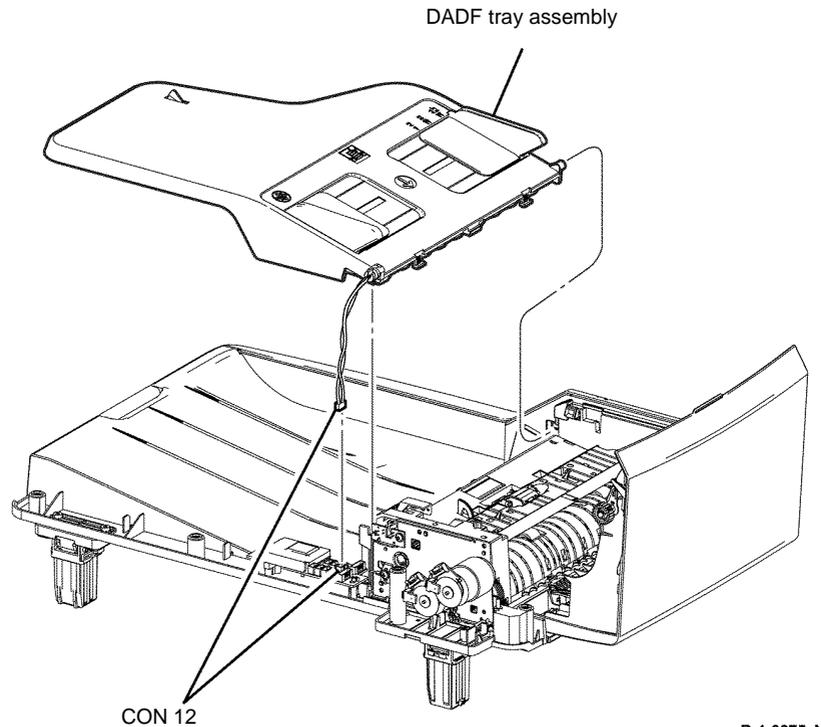

Figure 3 DADF tray assembly removal
4. Disconnect CON 12, then remove the DADF tray assembly, Figure 3.